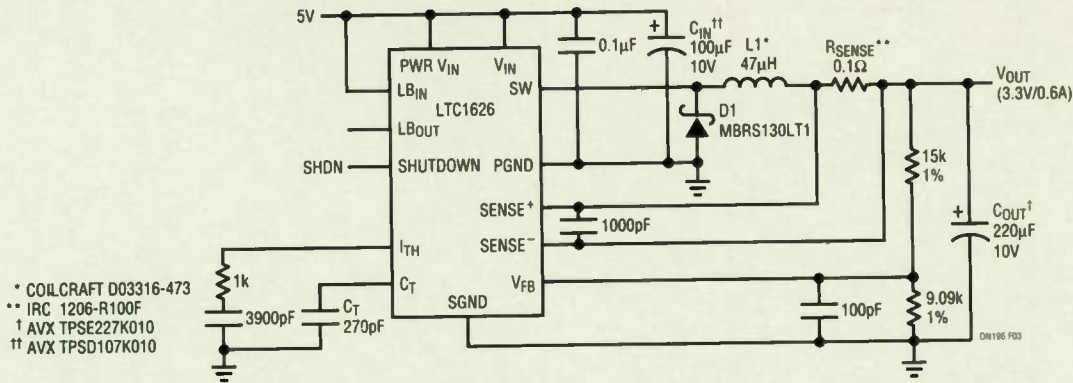
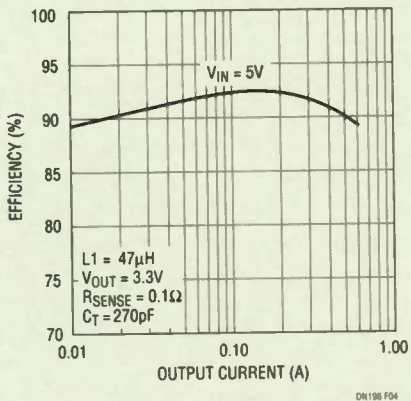

Figure 3. High Efficiency 5V to 3.3V Step-Down Converter
Figure 4. Efficiency vs Load Current
Good board design practices include making sure that high-speed traces don't have to jump between different board layers. In some cases, for a trace that has to be longer than an inch or two, it may even be useful to bring it down a layer and make it a microstrip embedded within the board. Essentially, a microstrip provides a separate strip connector that can be dielectrically isolated from the board's primary ground plane (Fig. 4). If the thickness, width, and height of the line above the ground plane are carefully controlled, the microstrip will exhibit a consistent characteristic impedance.
The circuit of Figure 3 shows the LTC1626 being used for board-level conversion of 5V to 3.3V at up to 0.6A. Although a linear regulator could also perform this function, it would result in an additional 1W of power loss. The high efficiency of the LTC1626 (Figure 4) reduces this loss to only 230mW.
In a Class-D APA using linear PWM, a square-wave signal with a 50% duty cycle and a frequency much higher than the audio is fed into an integrator to create a triangle waveform at the same frequency (Fig. 3). A comparator then compares the triangle wave with the audio input signal to create a variable-duty-cycle square wave. In effect, a pulse-train is created with a duty cycle proportional to the audio signal level. These pulses then turn the output transistors on and off at a frequency that's much greater than that of the audio input frequency. Finally, a passive inductor-capacitor (LC) low-pass filter is used to remove the high-frequency content of the output signal so that only an amplified version of the input signal is delivered to the load.
The architecture shown in Figure 3 is of an integrated Class-D APA. More specifically, DMOS power FETs are
If the Class-D APA output is configured as an H-bridge or full-bridge, a low-pass filter must be used on both outputs. The designer can use a simple passive LC arrangement (Fig. 3,
An excellent application for a Class-D amplifier is a notebook computer because it has certain space restrictions and must operate efficiently to prolong its battery life (*Fig. 4*). The digital controller (DC '97) receives and transmits data from and to the PCI bus. It performs high-quality sample conversions for the audio codec (AC '97). The codec functions as a slave to the controller, which then performs digital-to-analog conversions, analog-